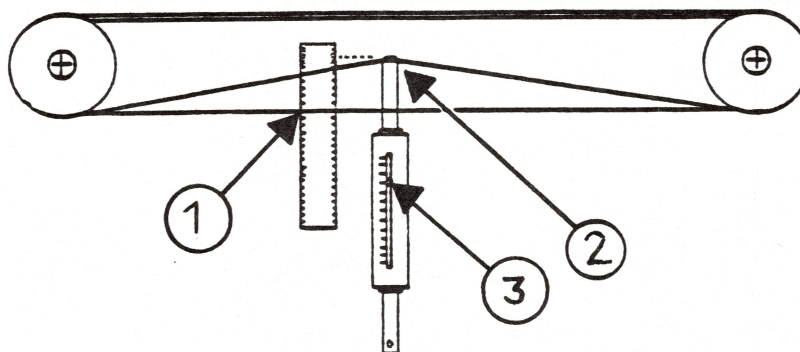

FIGURE 14
23. Lay a ruler under the front edge of the carrier wire **(use the rear edge for the 15 inch ImageWriter)** and visually mark the point where the carrier wire crosses the ruler (see Figure 14, #1). With the carriage assembly at the far left, push the carrier wire at its center with a tension gauge (see Figure 14, #2).
24. When the wire has been pushed  $\frac{3}{8}$  of an inch away from its original position, check the tension gauge (see Figure 14, #3). It should read 1 lb. If it doesn't, adjust the screw of the tension arm and recheck.